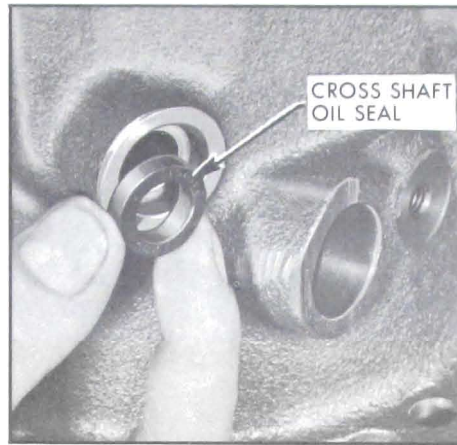

Figure 5-100—Installing Cross Shaft Oil Seal
2. Lubricate cross shaft seal and position in recess over cross shaft bearing with lip "in". See Figure 5-100.